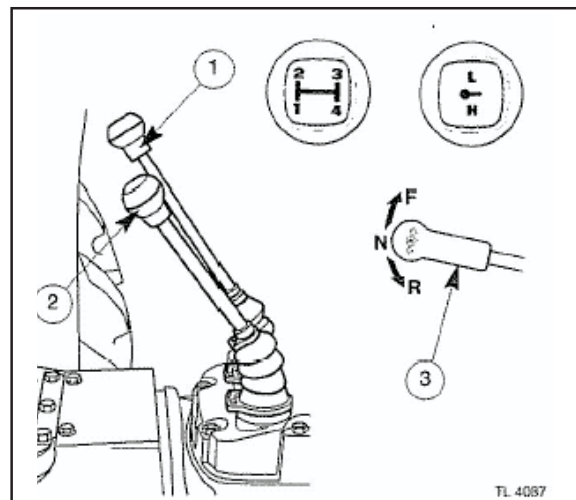

Fig. 49
The main gear lever (1, Fig. 49) provides the operating gears within the range selected. The range lever on the right (2) selects the range, forwards for LOW (L) and backwards for HIGH (H) range.